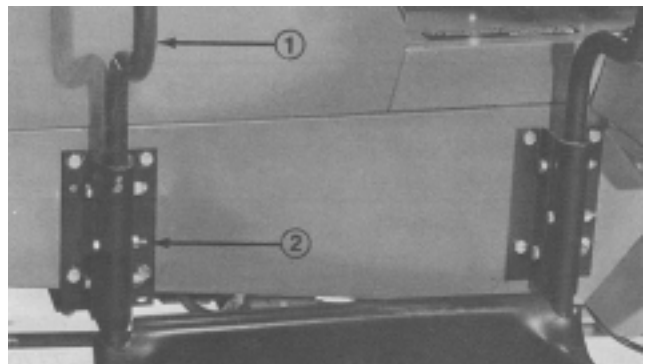

Figure 5
2. Insert legs of upper support tube assembly into lower support tubes and secure with (2) 5/16-18 x 2-1/4" lg. capscrews and locknuts (Fig. 5).